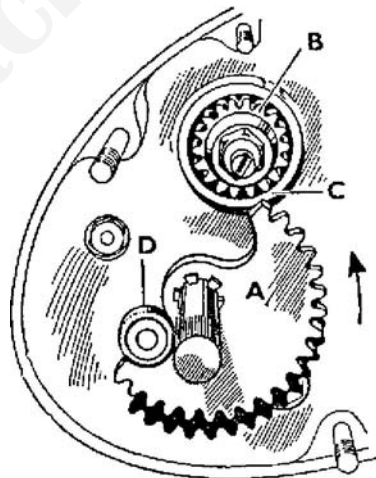

FIG. 4. THE KICK-STARTER (1945-1951)
Avoid Force on Kick-starter Pedal. It is very important not to exert excessive force on the kick-starter pedal (*see* Fig. 4) until the toothed quadrant (A) has moved in the direction of the arrow sufficiently to bridge the gap (C) between the quadrant and the kick-starter ratchet pinion (B).